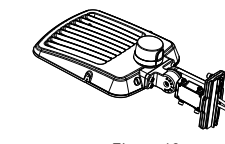

Figure 10
Step 2: Install the bracket on the fixture, then cover the side lid and tighten it(Figure10).